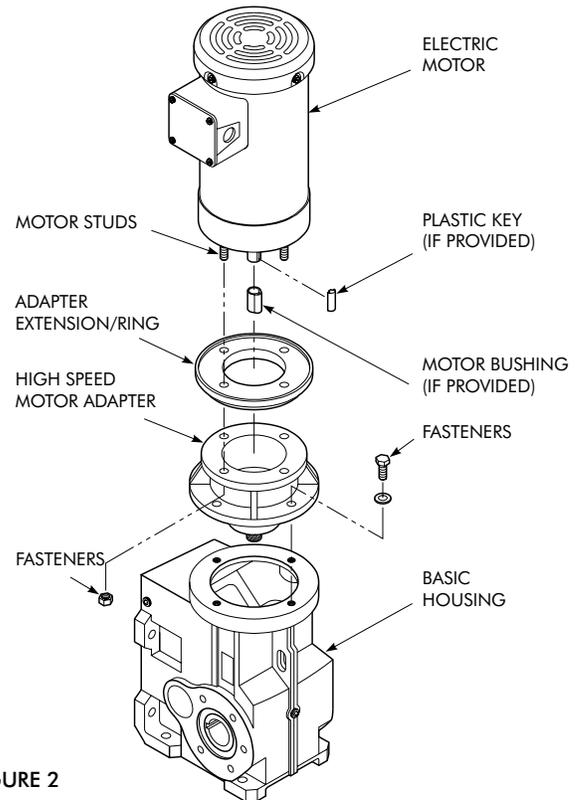

FIGURE 2
PROCEDURE G & H — Figure 2
- Place basic housing on a workbench so that high speed end is facing up as illustrated in Figure 2. If necessary, block housing so that it is stable and level.
PROCEDURE G & R — Figure 2
1. Place basic housing on a workbench so that high speed end is facing up as illustrated in Figure 2. If necessary, block housing so that it is stable and level.